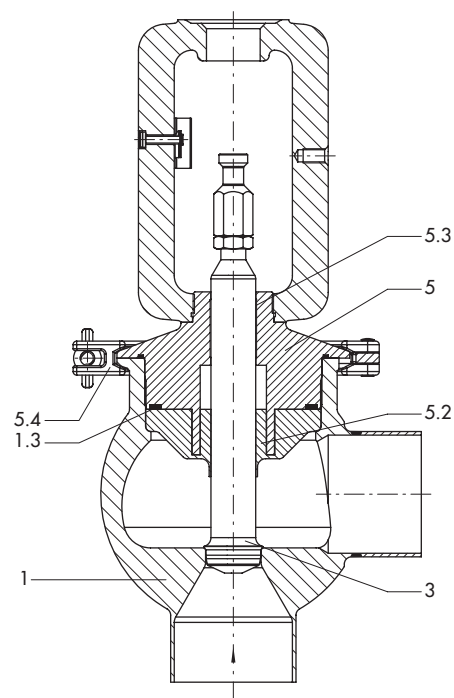
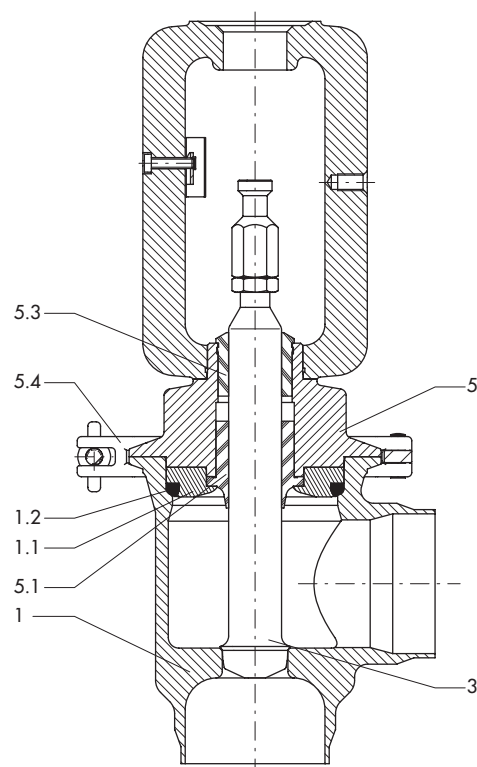
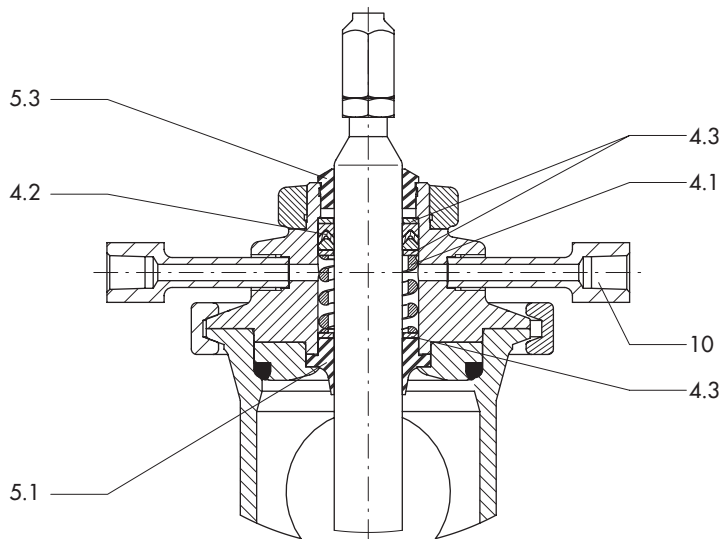
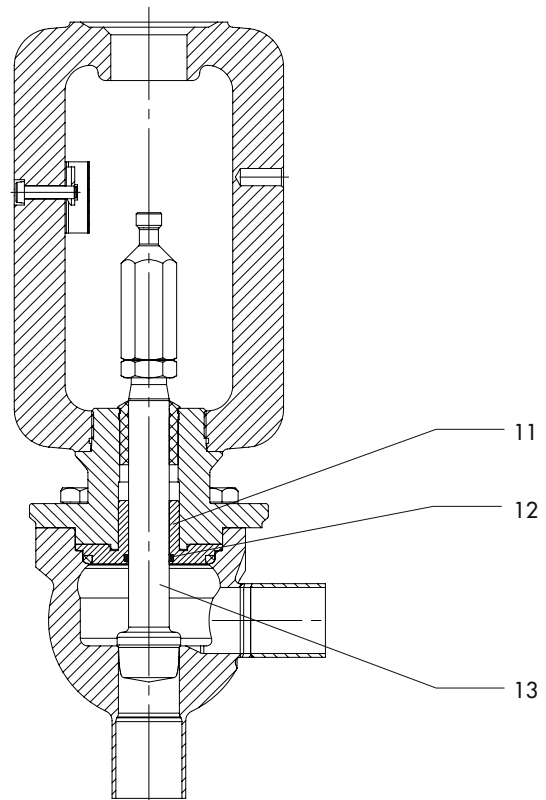

Fig. 3: Type 3347 Valve, bar stock body according to 3-A and EHEDG regulations
Fig. 4: Type 3347 Valve, cast body
Fig. 5: Type 3347 Valve, bar stock body
Fig. 6: Type 3347 Valve, version with special sealing system for media that crystallize or tend to form deposits
- Bonnet with **special sealing system** (not compliant with 3-A or EHEDG regulations, Fig. 6)
Principle of operation (Fig. 3 to Fig. 6)
A PTFE bushing (5.1) seals the actuator stem. An additional bushing (5.3) guides the plug stem to the outside (see Fig. 4 and Fig. 5). Additionally, a body and stem gasket (5.2) is used to seal the valve (see Fig. 3).
An optional steam or sterile fluid line connection (Fig. 5) for sterilization of the plug stem is available (except for version compliant with 3-A or EHEDG regulations).
Legend for Fig. 3 to Fig. 6